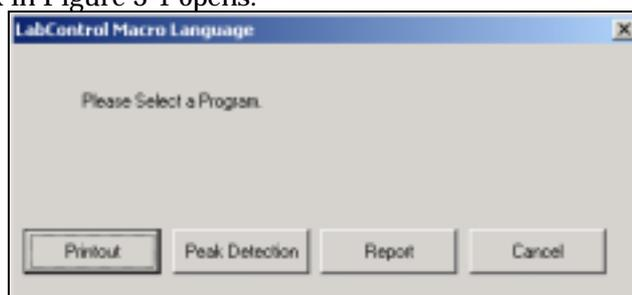

Figure 3-1. Selection of program
5. The dialog box in Figure 3-1 opens.